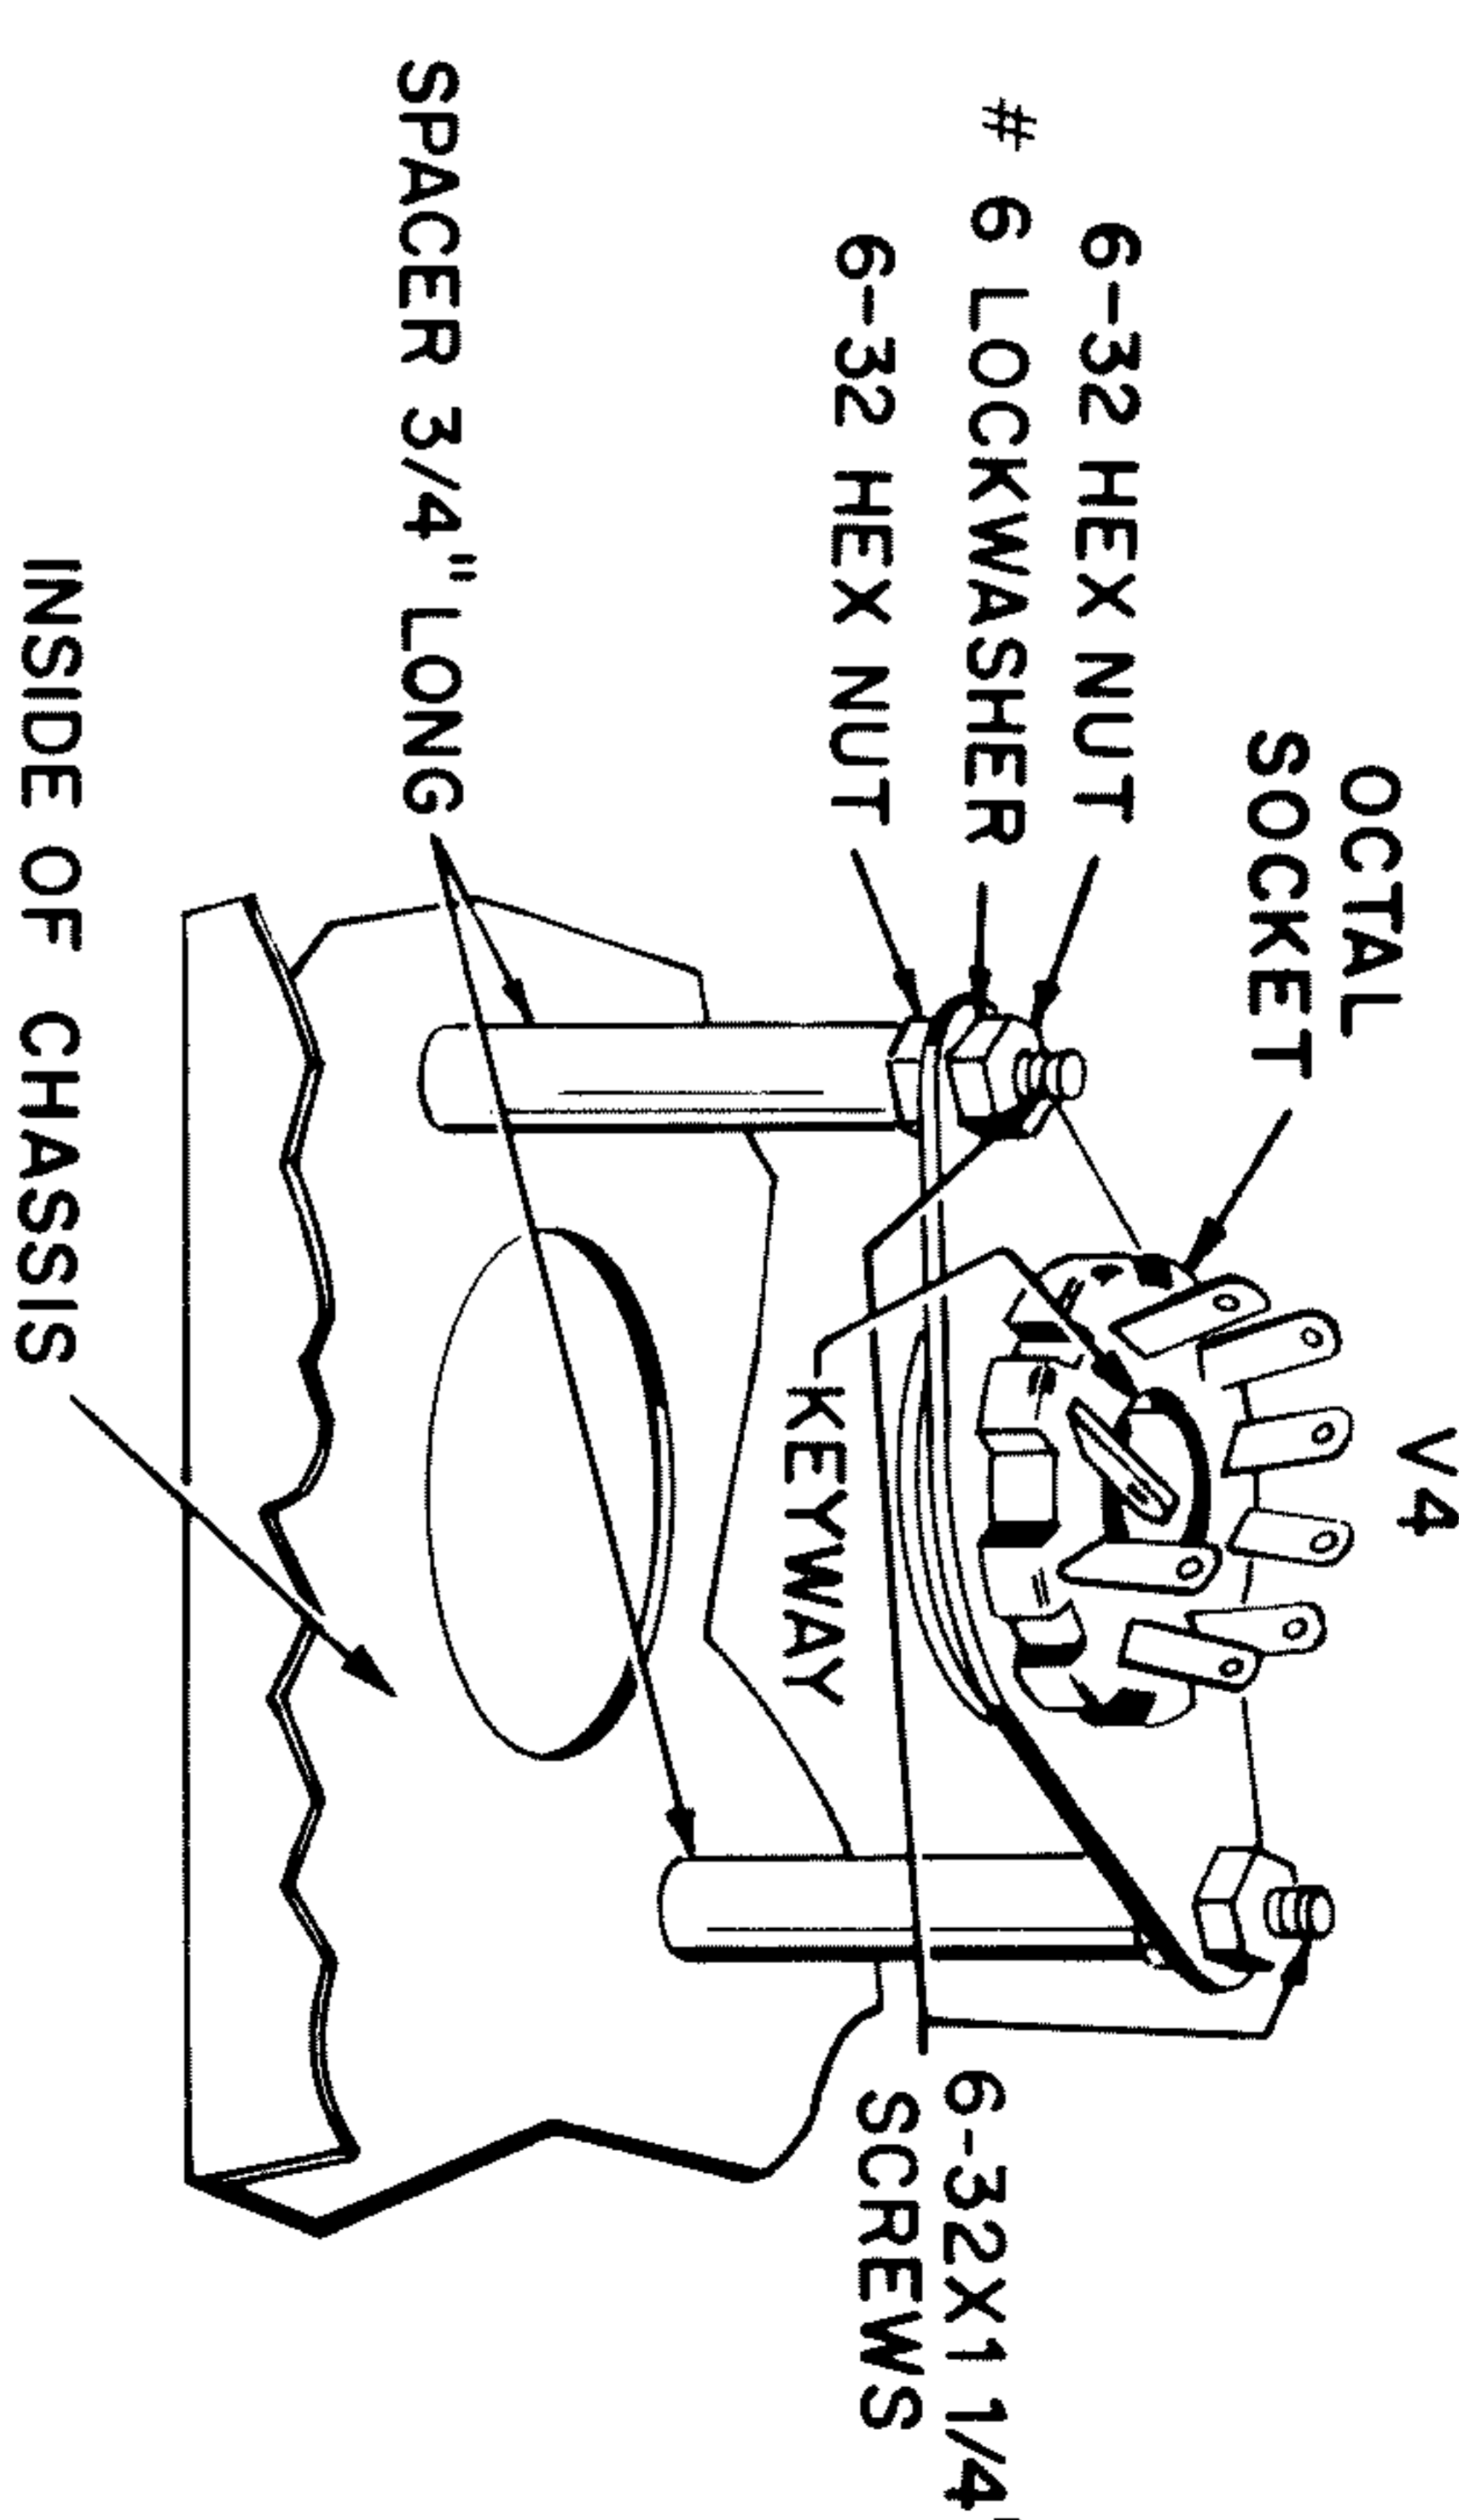

FIGURE 3
- 8-pin tube socket for V4 (largest socket) and two 3/4" spacers. See Figure 3. From the top of the chassis, insert a 6-32 x 1 1/4" screw through each of the mounting holes. Place a 3/4" spacer and a nut over each of the screws. Then place the tube socket over the screws so the keyway points toward the back of the chassis. Loosely fasten with two #6 lockwashers and nuts.